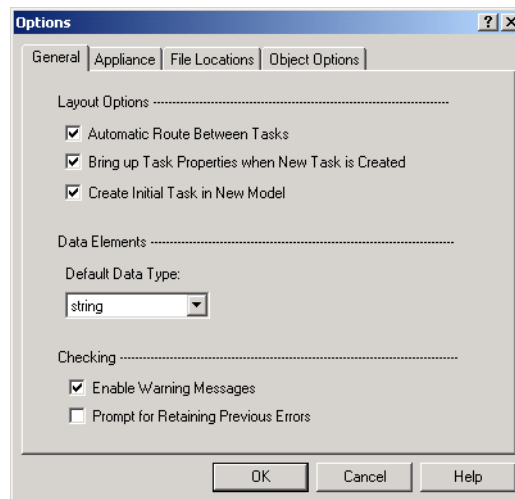

Figure 29-3. The General Process Options dialog.
- ❶ From the **Tools** menu, click **Options**.
- ❷ You can select the following checkboxes in the Layout Options screen area:
- ❸ Since data elements are usually strings, you may want to select a default data type of **String** (see Figure 29-3, below).
- ❹ Click **OK**.